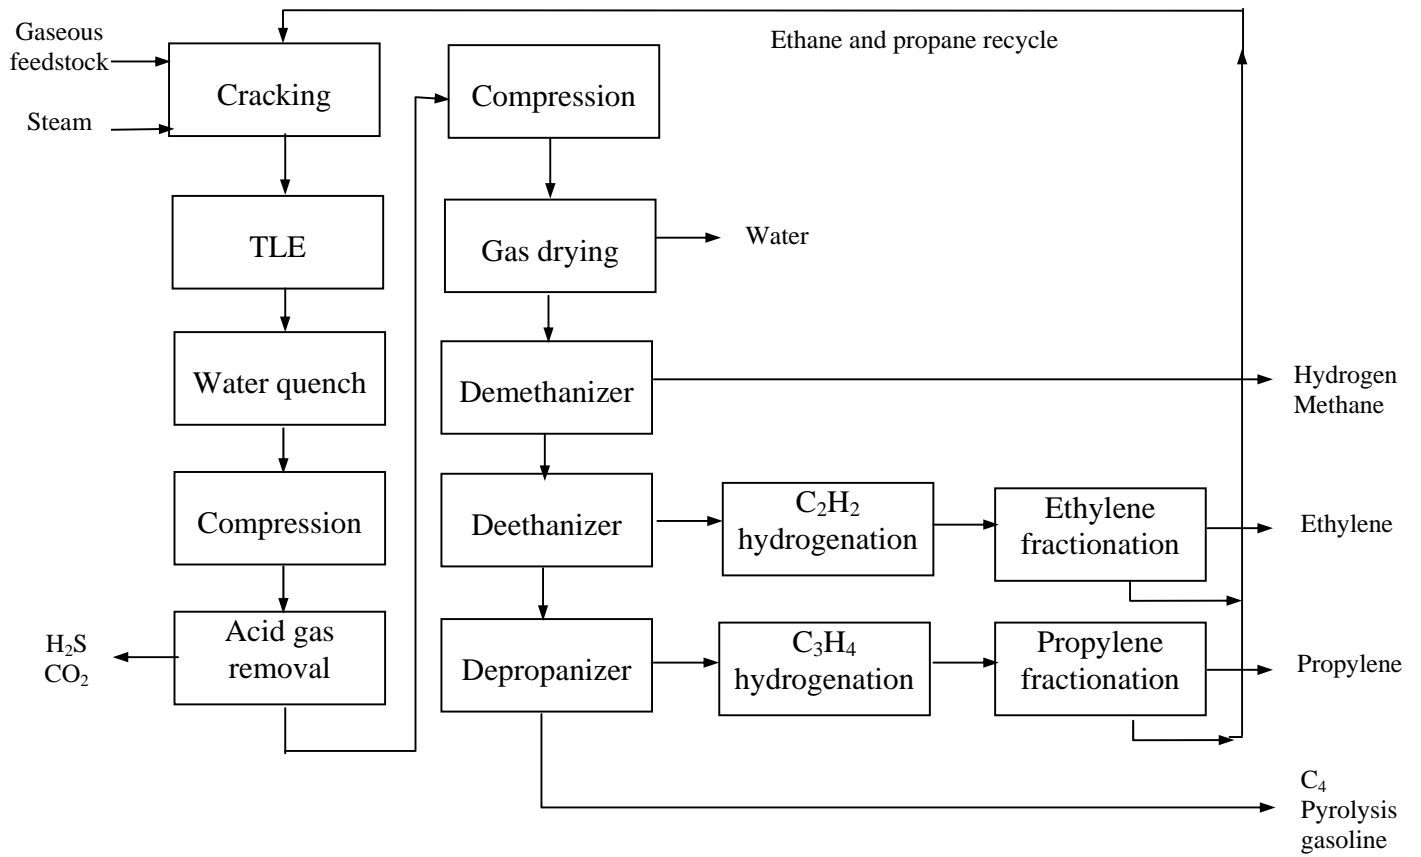

Figure 4: Simplified process flow diagram for producing ethene via gas cracking.
- Cracked gas is based on either gas or liquid feedstocks (see Figures 4 and 5).